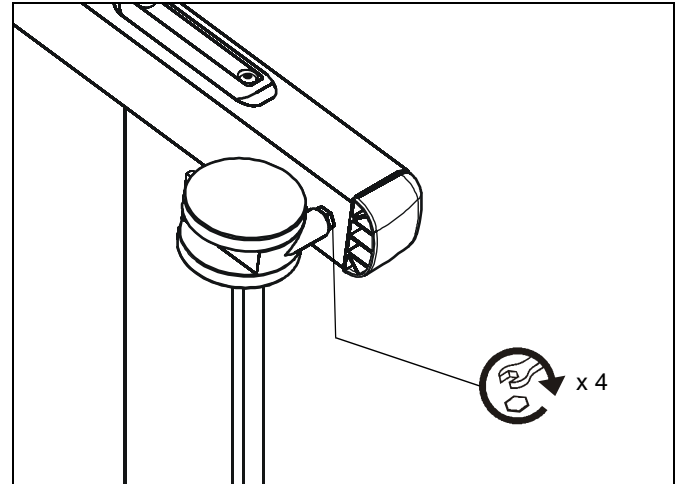

Figure 10
3. Check and tighten the hex nuts on the casters occasionally. (See Figure 10) These should be checked especially after use on uneven ground.